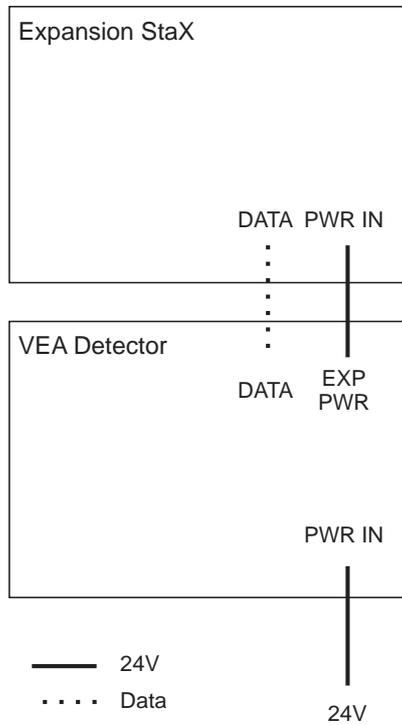

Figure 4-20: Single VEA detector and Expansion StaX
- Detector with single Expansion StaX (Figure 4-20)